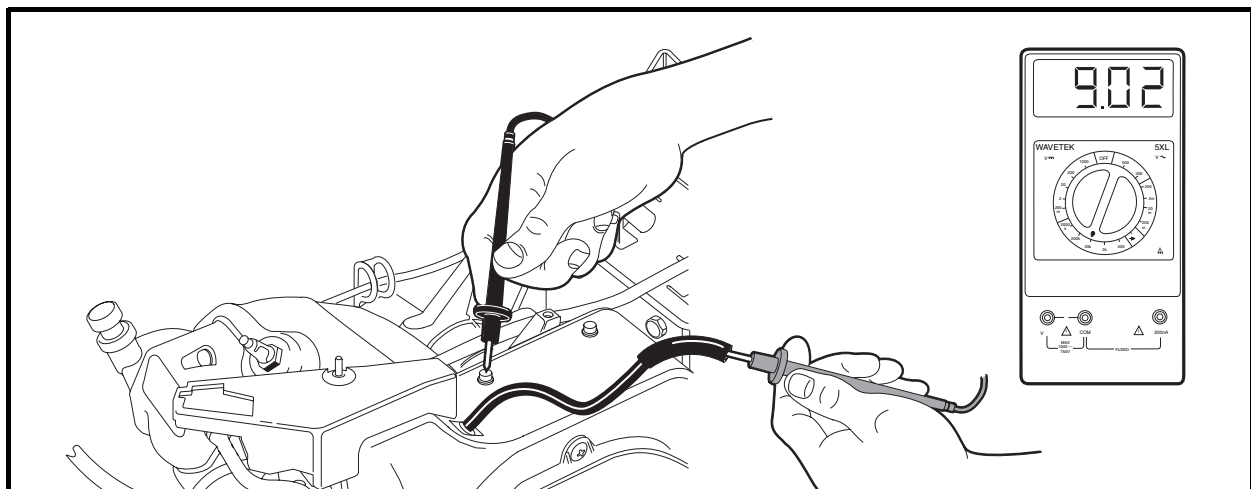

Figure 11-30 Secondary Coil Test without Cap
- 5.1. Using a multimeter set to 20k ohms, place the red (+) probe of the meter into the end of the spark plug wire and place the black (–) probe on a clean unpainted surface of the engine or frame (**Figure 11-30, Page 11-28**). If the resistance is between 6.0k - 11.0k ohms, the secondary coil is within acceptable limits. If the resistance is not between 6.0 k - 11.0k ohms, bench test the ignition coil. **See Test Procedure 15B – Ignition Coil – Bench Test on page 11-29.**